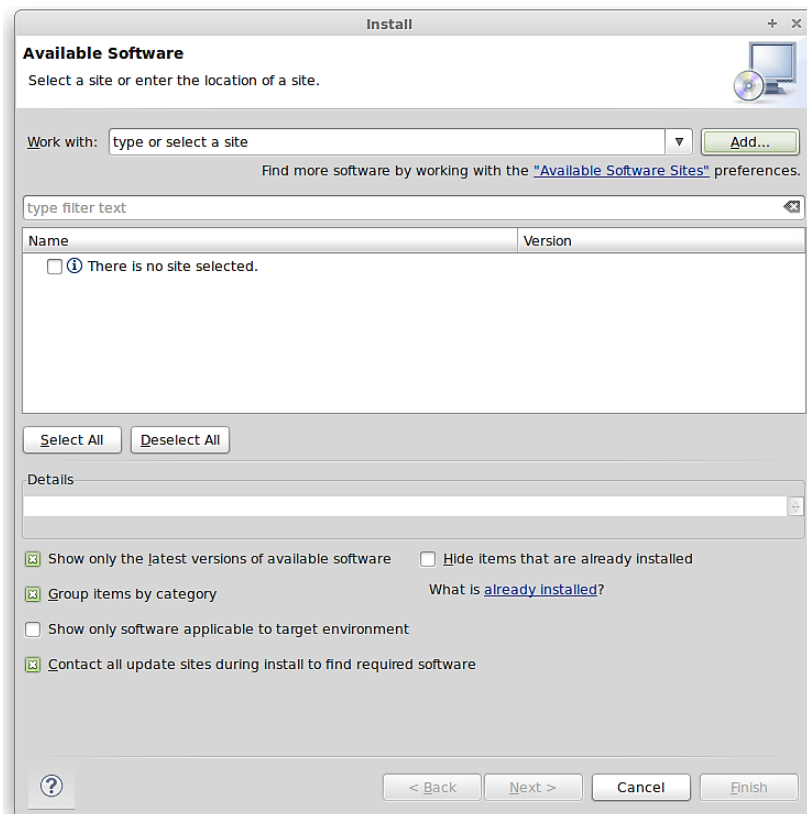

Figure 51: Installing Eclipse Egit Plug-in (continued)
- Click on the "Add" button as shown in Figure 51.